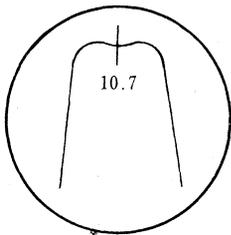

Figure 9
- b) Set the frequency of the sweep generator to 10.7 MHz and apply its output. Adjust  $T_{101}$  until the scope pattern illustrated in Fig. 9 is available.